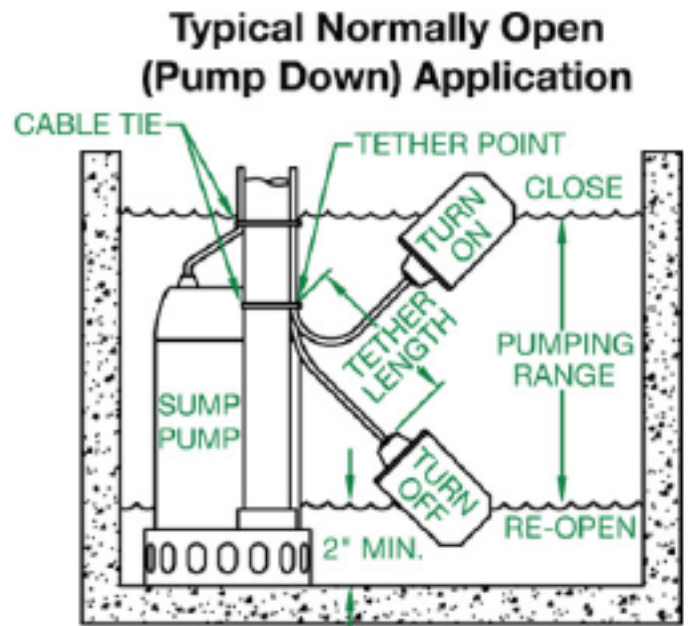

Fig. 1
1. Attach cord, using a cable tie, to any convenient rigid surface as illustrated. This is known as the tether point. Do not tighten until both turn-on and turn-off levels are established. (See Fig. 1)
Refer to Fig. 1